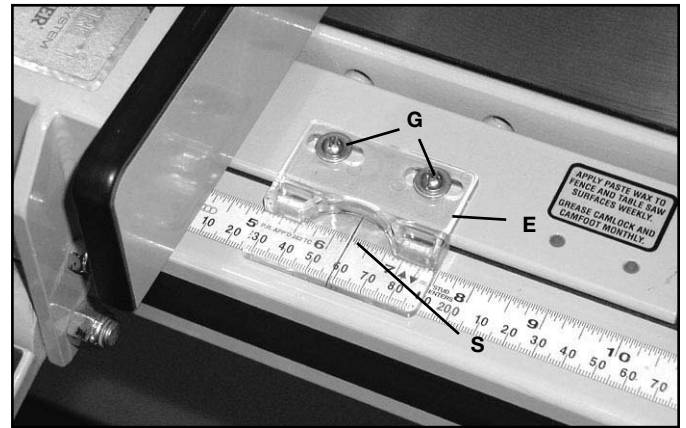

FIG. 31
9. The distance the fence is positioned away from the saw blade is indicated by the witness line (S) located in cursor (E), Fig. 31. To calibrate the cursor to the saw blade, make a test cut with the fence locked in position. Measure the width of the cut piece. Adjust the cursor by loosening screws (G), adjusting the cursor until the witness line is aligned with the same marking on the scale as the cut piece. Tighten the two screws (G). Repeat until the width of the cut piece matches the measurement indicated by the witness line.